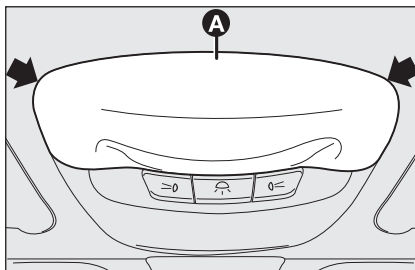

fig. 33
- ☐ work in the points shown by the arrows and remove the plastic shape **A**-fig. 33;